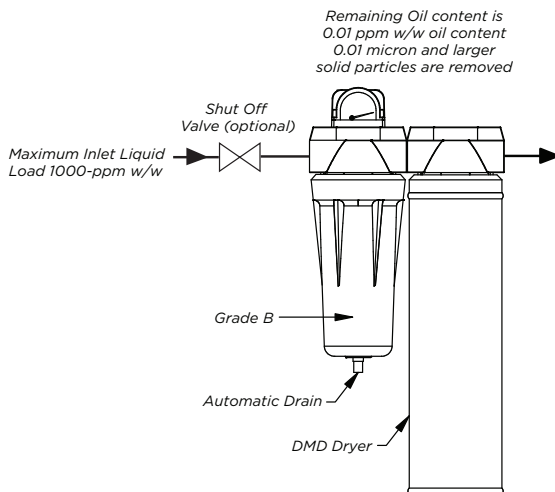

Figure 2.1A
- A typical membrane dryer installation is shown schematically in Figures 2.1A and 2.1B.